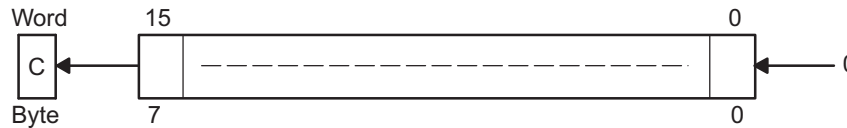

Figure 3-15. Destination Operand – Arithmetic Shift Left
**Description** The destination operand is shifted left one position as shown in Figure 3-15. The MSB is shifted into the carry bit (C) and the LSB is filled with 0. The RLA instruction acts as a signed multiplication by 2.